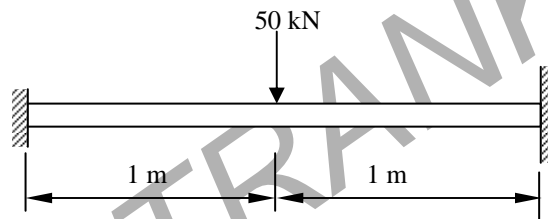

Fig. 1
- b) Determine the deflection and slope under the point load for the beam shown in fig. 1.